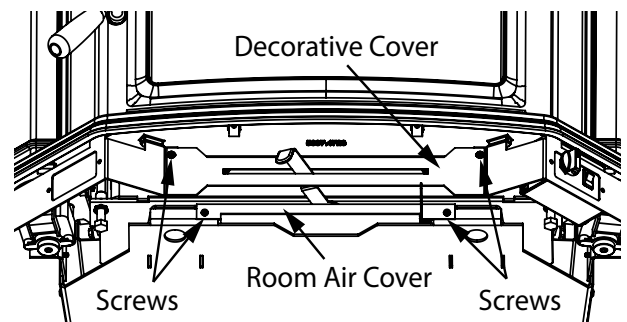

Figure 9: ALT 5 Ins LE - Room air Cover.
2. Room air supply: Remove the two screws securing the Decorative Cover under the ashlip. Remove the screws holding the Room Air Cover to the Base bottom and discard this cover. Re-install the Decorative Cover and tighten screws (Figure 9). Combustion Air will be drawn from the room through the front of the unit.